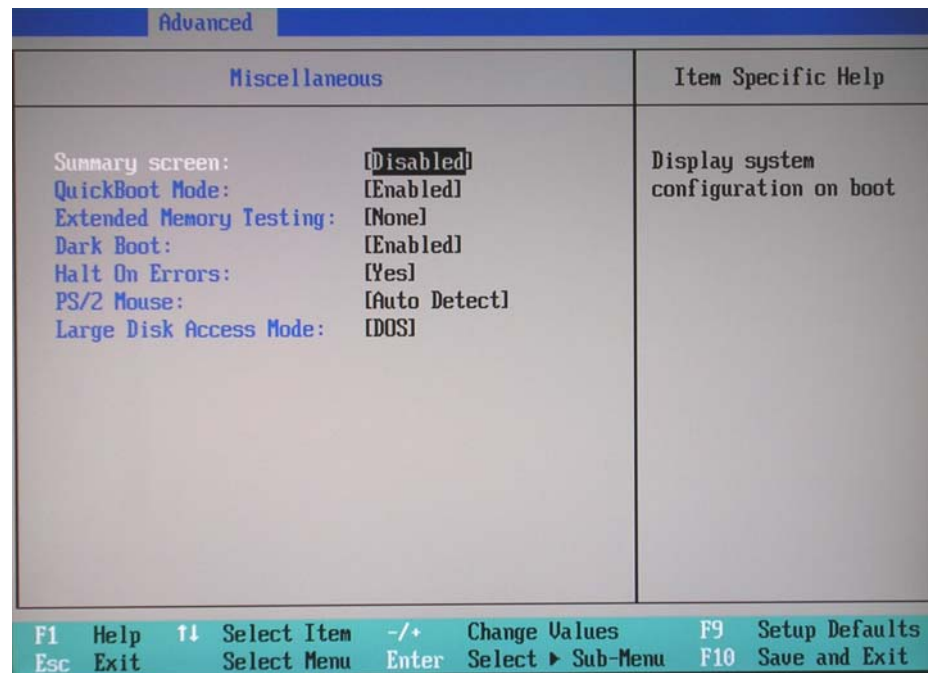

Figure 8-65 BIOS Advanced Miscellaneous Parameters
Miscellaneous	Figure 8-65 on page 8-75
27.) Set the parameters in the **Miscellaneous** screen as shown above in Figure 8-65.